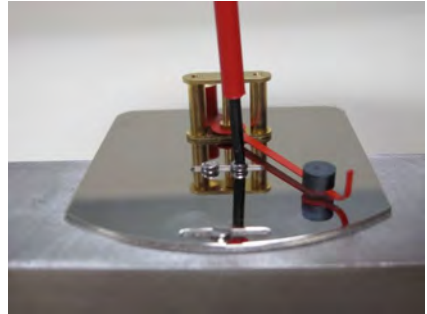

Fig. 42
5. ➤ Loosen fixing screws of the display base plate (Fig. 42) and remove the display base plate.